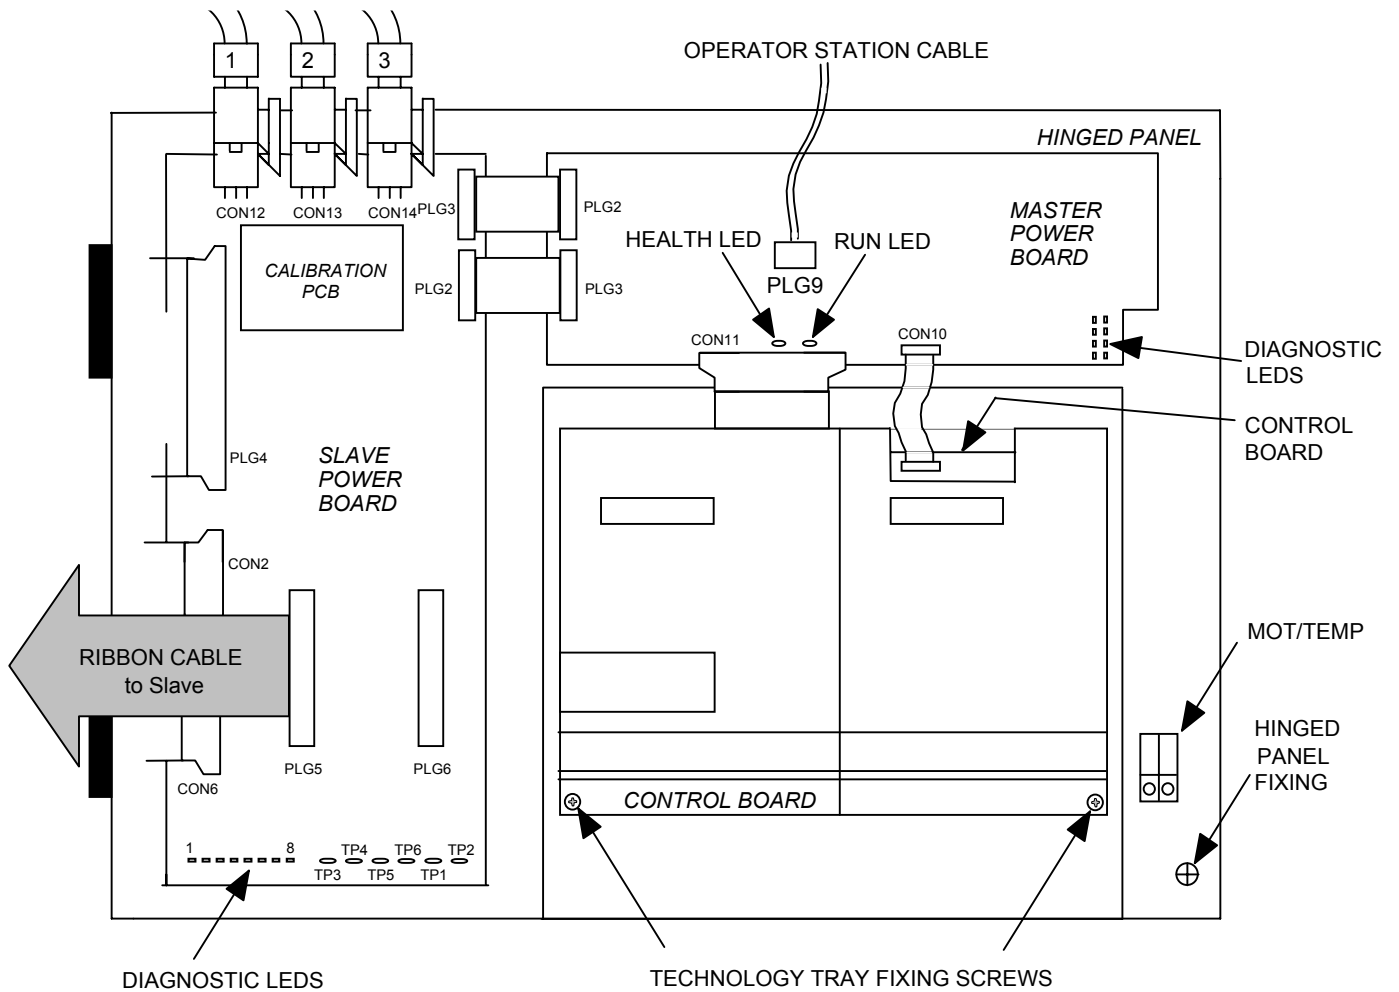

Figure 7.1 Master Drive Arrangement
4. It is now possible to view the Control Board as shown in figure 7.1.
1. Follow steps 1 to 3 of procedure "Control Board Replacement". Release hinged panel fixing - 1 off $\frac{1}{4}$ turn fastener as shown in Figure 7.1.
4. Re-fit hinged panel and $\frac{1}{4}$ turn fastener as shown in figure 7.1.
6. Re-connect 4-way op-station cable to PLG9 (see figure 7.1).
1. Follow steps 1 to 3 of procedure “Control Board Replacement’. Release hinged panel fixing - 1 off ¼ turn fastener as shown in Figure 7.1.
7. Re-fit hinged panel and ¼ turn fastener as shown in figure 7.1.
9. Re-connect 4-way op-station cable to PLG9 (see figure 7.1).
4. Re-fit hinged panel and ¼ turn fastener as shown in figure 7.1.
2. Disconnect 4-way op-station cable from PLG9 (see figure 7.1).
4. Release hinged panel fixing - 1 off $\frac{1}{4}$ turn fastener as shown in figure 7.1.
7. Re-fit hinged panel and $\frac{1}{4}$ turn fastener as shown in figure 7.1.
5. Release hinged panel fixing - 1 off ¼ turn fastener as shown in figure 7.1.
12. Re-connect 4-way op-station cable to PLG9 (see figure 7.1).